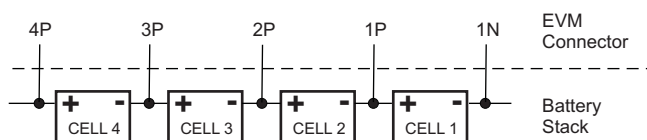

Figure 14. Connection Sequence
1. Connect the most negative terminal (– terminal of cell 1) of the serially-connected, 4-cell battery stack to the 1N PIN of the TB1–TB2 connector as shown in Figure 14. (See also Figure 9 for TB1–TB2 location).